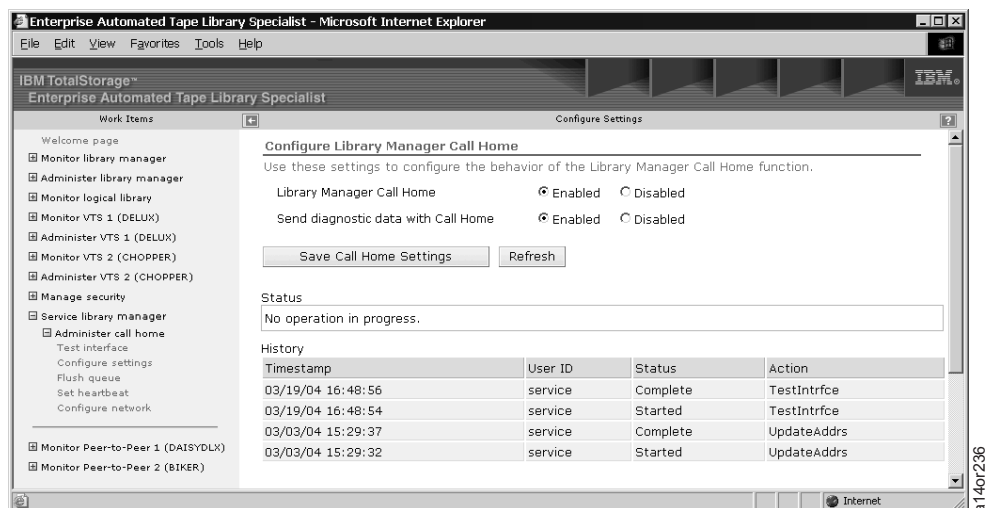

Figure 55. 3494 ATL Web Specialist - Configure Settings
1. From the "Administer call home" list on the Web Specialist screen (Figure 53 on page 43), click **Configure settings** to see Figure 55. If you are prompted for a userid and password, use the default values of **service** for the userid and **service** for the password. These values can be changed by the 3494 ATL system administrator.